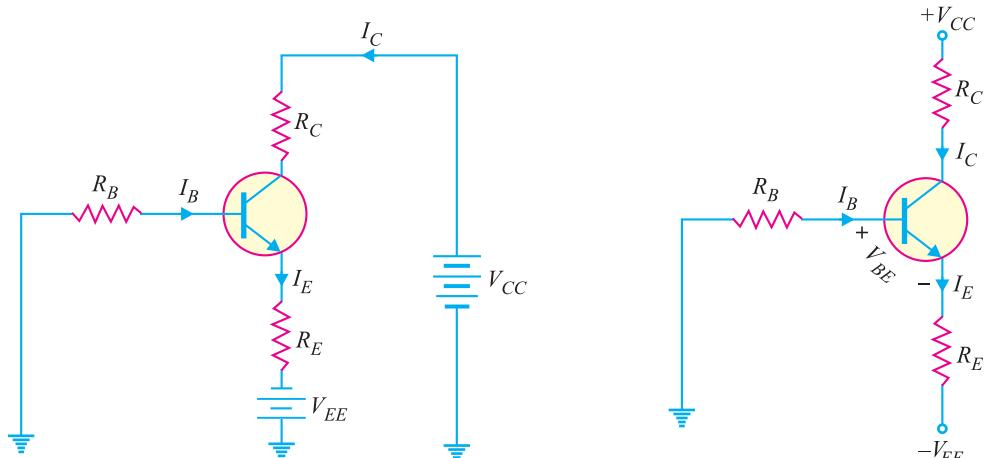
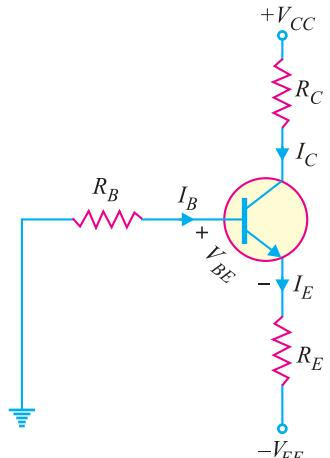

Fig. 9.15
Fig. 9.16
Fig. 9.15 shows the emitter bias circuit. This circuit differs from base-bias circuit in two important respects. First, it uses two separate d.c. voltage sources ; one positive ( $+ V_{CC}$ ) and the other negative ( $- V_{EE}$ ). Normally, the two supply voltages will be equal. For example, if  $V_{CC} = + 20\text{V}$  (d.c.), then  $V_{EE} = - 20\text{V}$  (d.c.). Secondly, there is a resistor  $R_E$  in the emitter circuit.
We shall first redraw the circuit in Fig. 9.15 as it usually appears on schematic diagrams. This means deleting the battery symbols as shown in Fig. 9.16. All the information is still (See Fig. 9.16) on the diagram except that it is in condensed form. That is a negative supply voltage  $- V_{EE}$  is applied to the bottom of  $R_E$  and a positive voltage of  $+ V_{CC}$  to the top of  $R_C$ .
Fig. 9.16 shows the emitter bias circuit. We shall find the Q-point values (*i.e.* d.c.  $I_C$  and d.c.  $V_{CE}$ ) for this circuit.
**(i) Collector current ( $I_C$ ).** Applying Kirchhoff's voltage law to the base-emitter circuit in Fig. 9.16, we have,
**Alternatively.** Applying Kirchhoff's voltage law to the collector side of the emitter bias circuit in Fig. 9.16 (Refer back), we have,